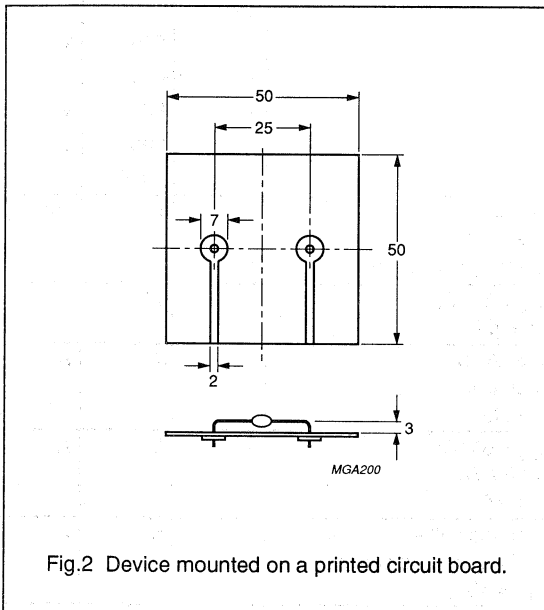

Fig.2 Device mounted on a printed circuit board.
1. Device mounted on an epoxy-glass printed circuit board, 1.5 mm thick; thickness of copper  $\leq 40\ \mu\text{m}$ , see Fig.2.